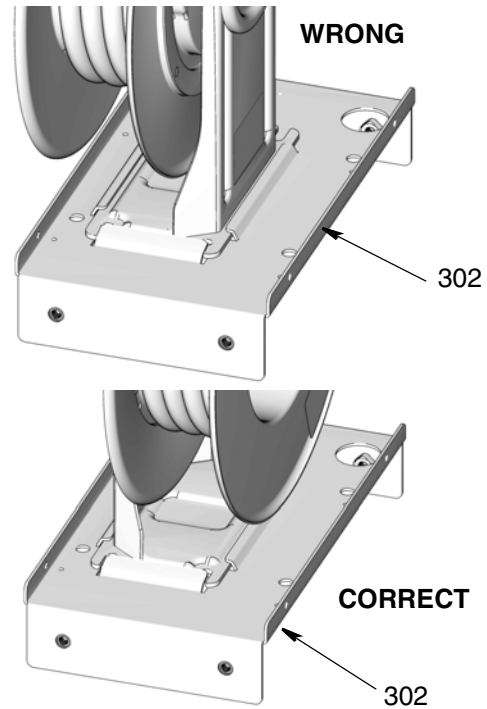

FIG. 1: SD Reels Only
1. Use the mounting channel (103) to lay out the position of the mounting holes before you drill.
**NOTE:** (SD reels only) Although the hose reel can be installed on the reel base (302) with the guide arm positioned on the left or the right side, there is only one correct installation position. When the hose reel is correctly installed in the reel base, the reel will be centered over the reel base. See FIG. 1 to verify you have installed the hose reel in the reel base correctly.
3. Position hose reel on base (302), verifying reel is correctly centered on base as shown in FIG. 1.